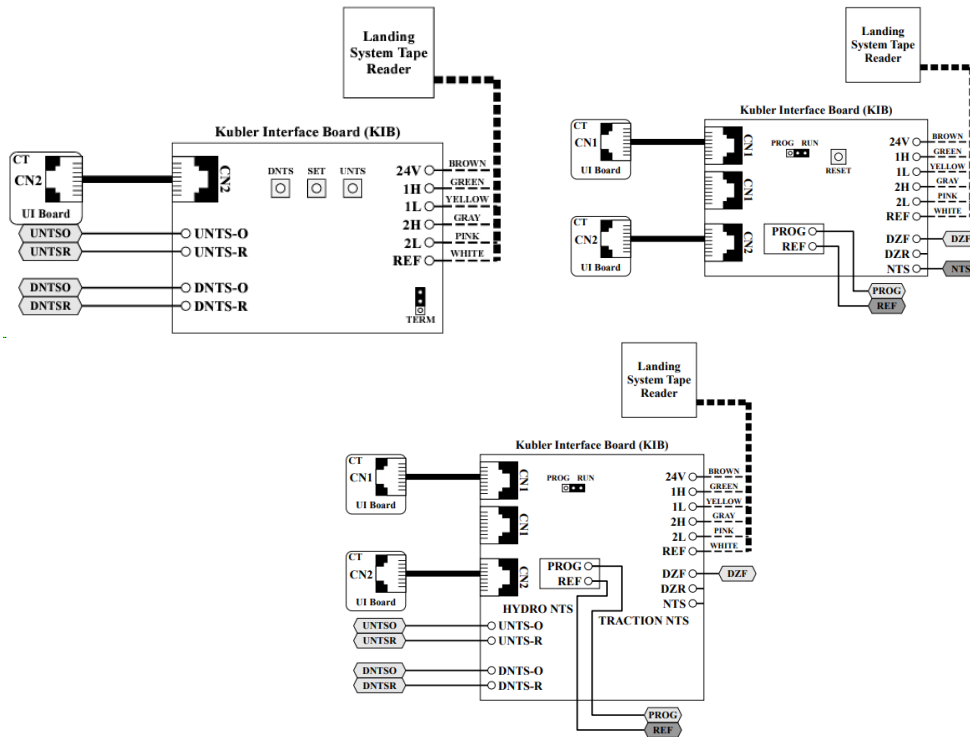

Figure 16: Sensor head connection to KIB Hydro board (Top Left), KIB Traction board (Top Right) and KIB H/T Board (Bottom)
20. Connect the 6 wires of the sensor for power and communication to the KIB Hydro board or KIB Traction board located inside the CT Box. See Figure 16